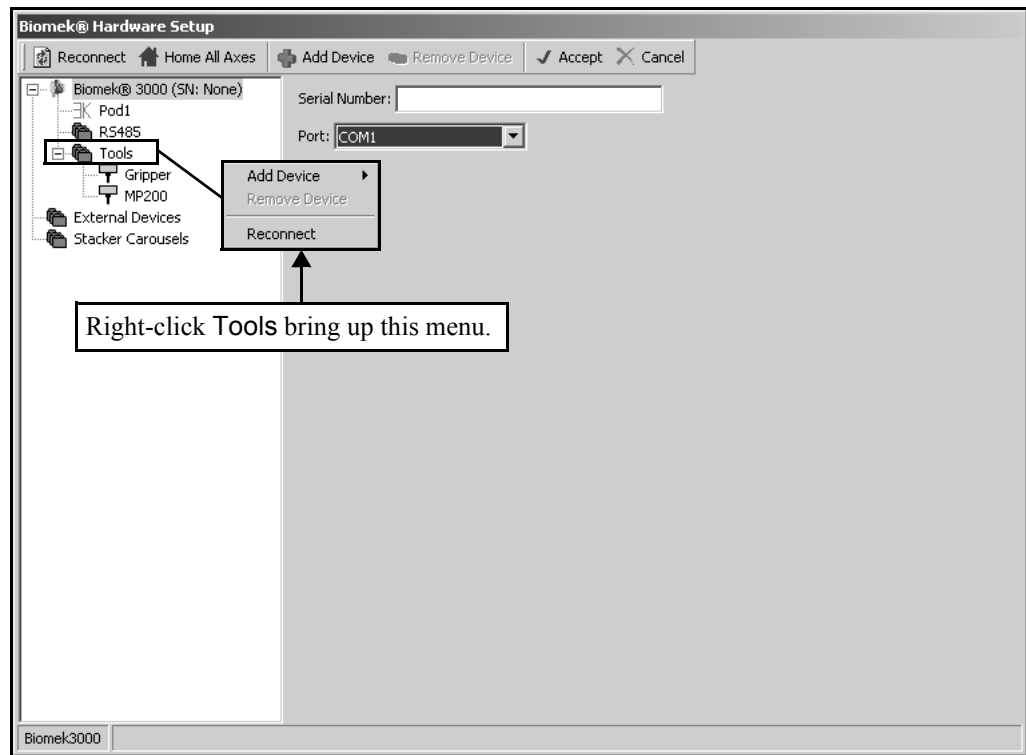

Figure 3-13. Hardware Setup
1. Choose **Instrument>Hardware Setup**. **Hardware Setup** appears (Figure 3-13).